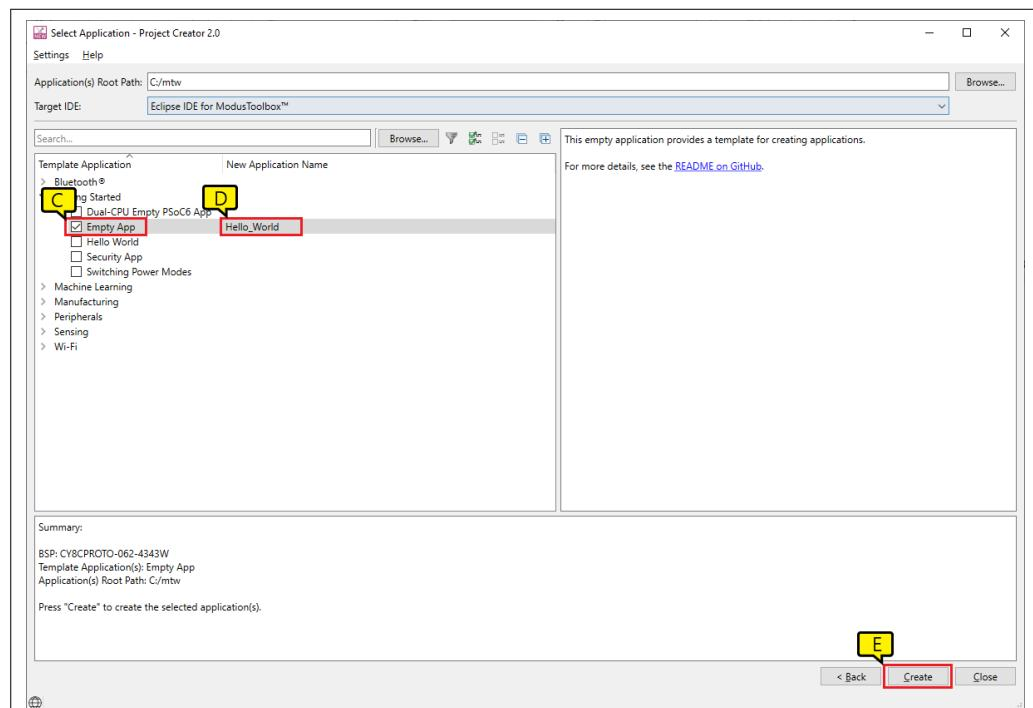

Figure 16 Choose starter application
- c. In the **Select Application** dialog, select **Empty App** starter application, as Figure 16 shows.
- e. Click **Create** to create the application, as Figure 16 shows, wait for the Project Creator to automatically close once the project is successfully created.